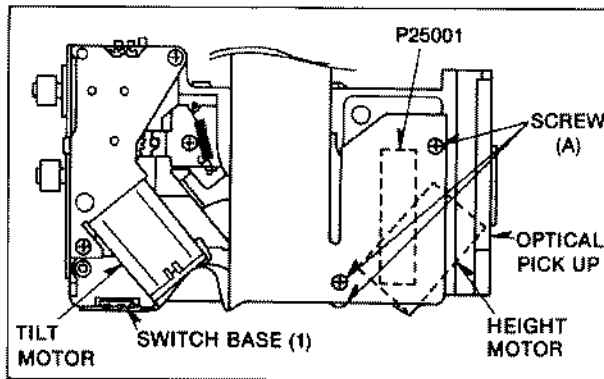

Fig. R19
1. Remove 3 screws (A) and disconnect connector P25001.
2. Unsolder 2 leads from Height Motor as shown in Fig. R19. If replace the Pick Up Base Interface C.B.A., unsolder 2 leads from Tilt Motor and remove the Switch Base (1).